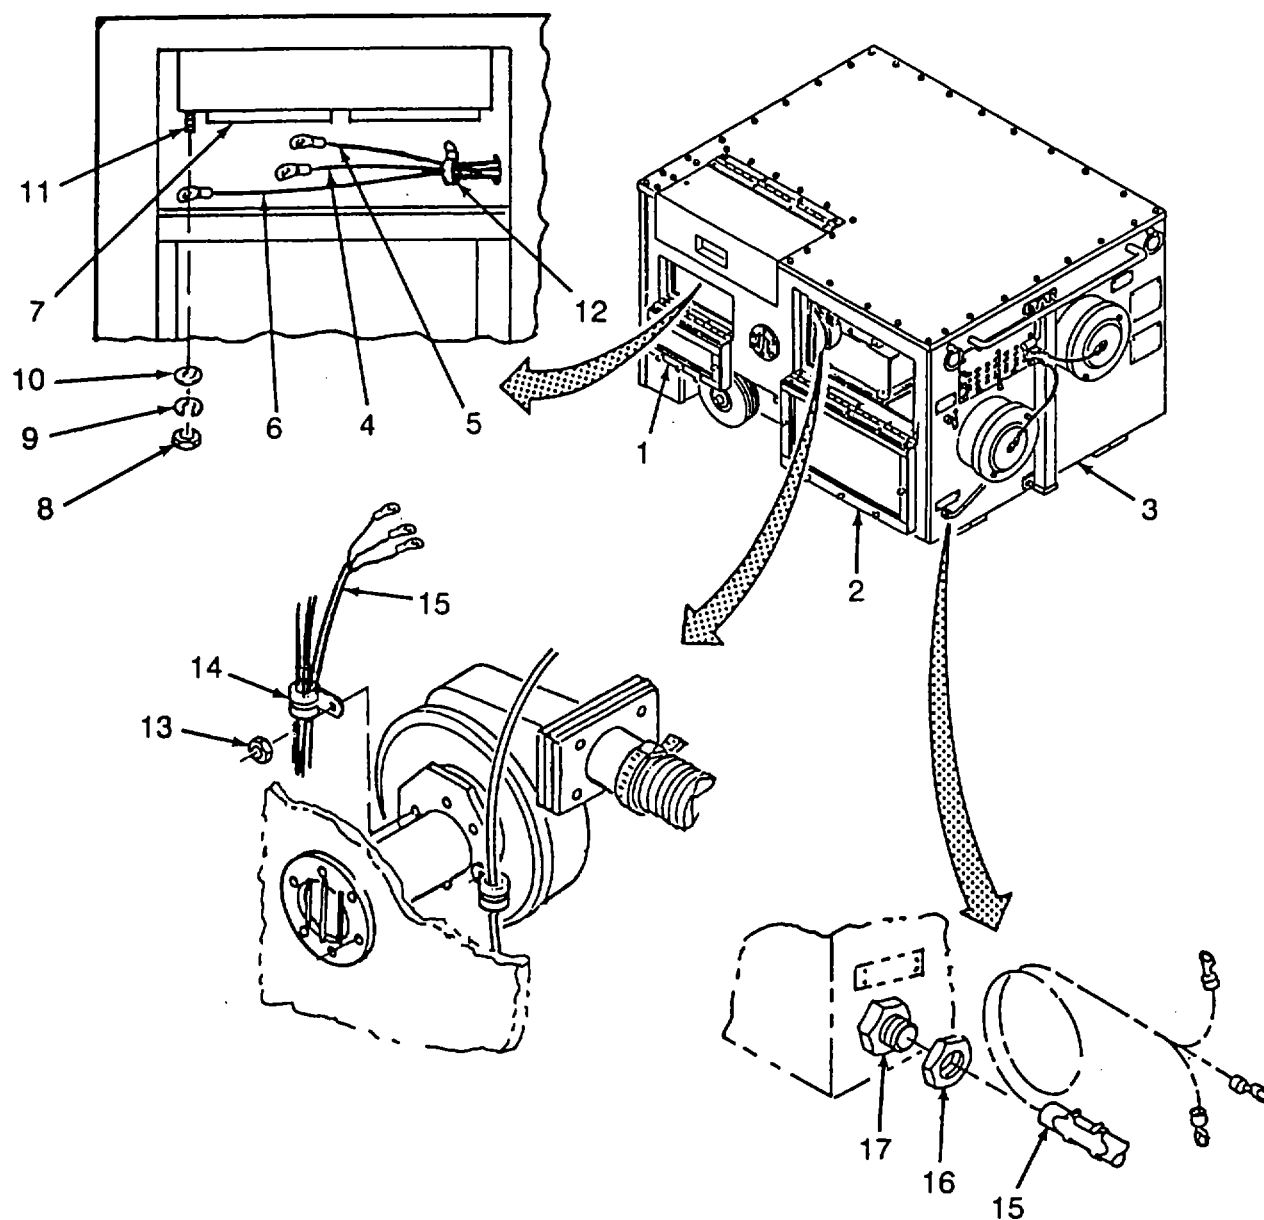

Figure 4-74. Power Cable Removal
- a. Removal (Refer to Figure 4-74)
- (1) Open doors (1) and (2) on right side of unit (3).
- (2) Tag and disconnect wires (4), (5) and (6) from TB1 (7) as follows:
- (a) Remove black wire (4) P1-A from position TB1-1. Reconnect remaining wires.
- (b) Remove white wire (5) P1-B from position TB 1-2. Reconnect remaining wires.
- (c) Remove nut (8), lockwasher (9), flat washer (10), and green wire (6) P1-C from ground post (11). Discard lockwasher. Reconnect remaining wires.
- (3) Remove wire ties (12) as required.
- (4) Loosen nut (13) on clamp (14) and feed cable (15) through clamp.
- (5) Loosen nut (16) and gently pull power cable (15) through fitting (17) from outside the unit.